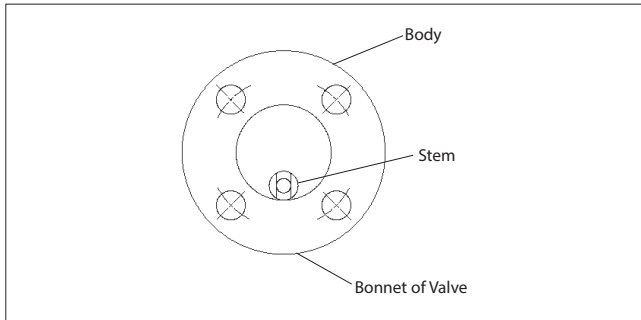

Figure 6. Ball end of stem
- B. Place the body (1) on a flat surface resting it on both flanges with bonnet facing down.
- C. Slide the stem and stem seal subassembly, threaded-end first, along the inside of the body bore towards the stem hole. The blade at the ball end of the stem must be vertical as seen from the insert end of the valve (see **Figure 6**). When the threaded end of the stem reaches